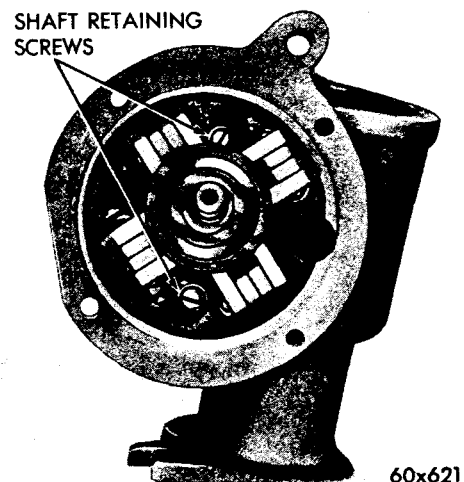

Fig. 28—Location of Governor Shaft Retaining Screws
11. Remove the shaft retainer screws from the adapter shaft and remove the shaft assembly (Fig. 28).